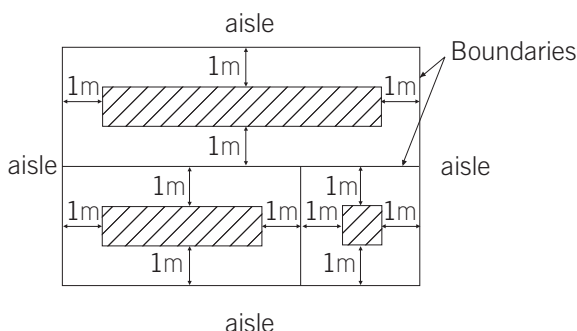

Fig. 2
b) More than 8 booth units (Island Booth) & Booth located in the last row at the rear of the hall: Height of all building materials are limited to 5m. However, within 1m from all aisles (set back area), the height must not exceed 2.7m, as Fig.2 / Fig.4.